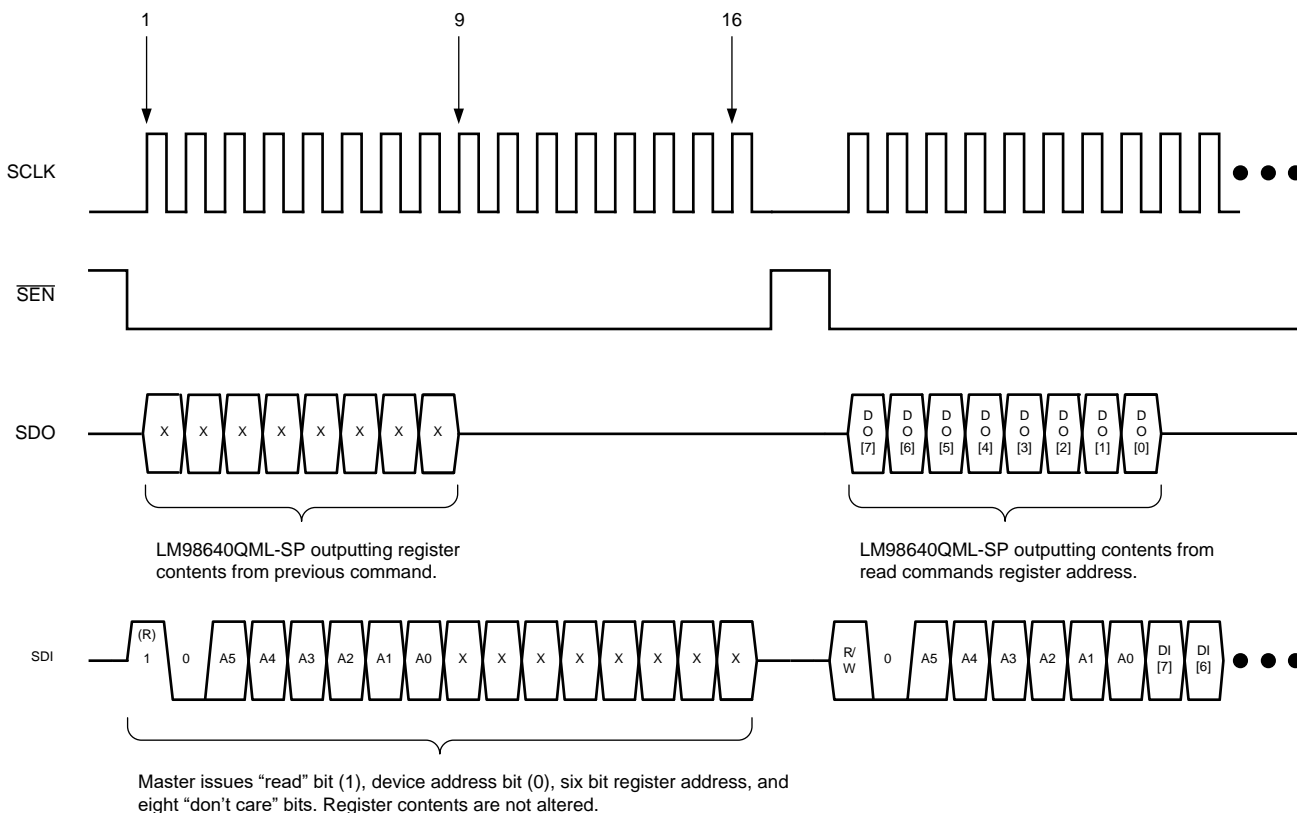
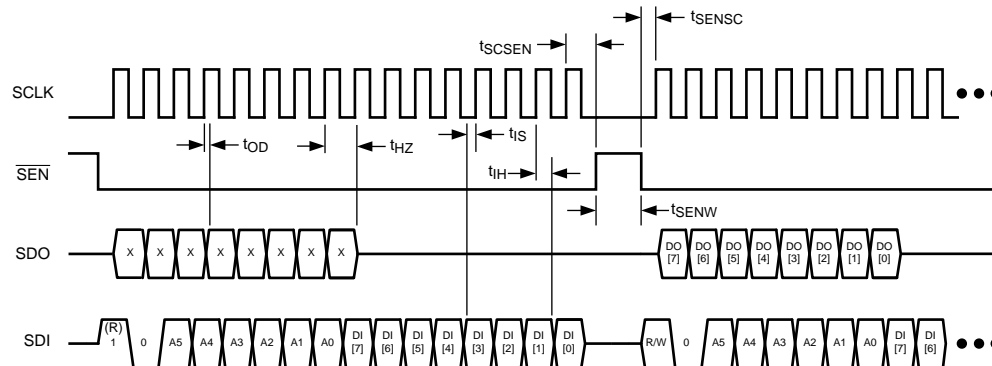

Figure 27. Four Wire Serial Read
Figure 28. Serial Interface Specification Diagram
To read to the serial registers using the four wire interface, the timing diagram shown in Figure 27 must be met. Reading the registers takes two cycles. To start the first cycle, $\overline{\text{SEN}}$ is toggled low. At the rising edge of the first clock, the master should assume control of the SDI pin and begin issuing the read command. The read command is built of a "read" bit (1), device address bit (0), six bit register address, and eight "don't care" bits. SDI is clocked into the LM98640QML-SP at the rising edge of SCLK. $\overline{\text{SEN}}$ is toggled high for a delay of at least t_{SENW} (see Figure 28). The second cycle begins when $\overline{\text{SEN}}$ is toggled low. The LM98640QML-SP assumes control of the SDO pin during the first eight clocks of the cycle. During this period, data is clocked out of the device at the rising edge of SCLK. The eight bit value clocked out is the contents of the previously addressed register. The next command can be sent on the SDI pin simultaneously during this second cycle. When $\overline{\text{SEN}}$ toggles high, the register is not written to, but its contents are staged to be outputted at the beginning of the next command.